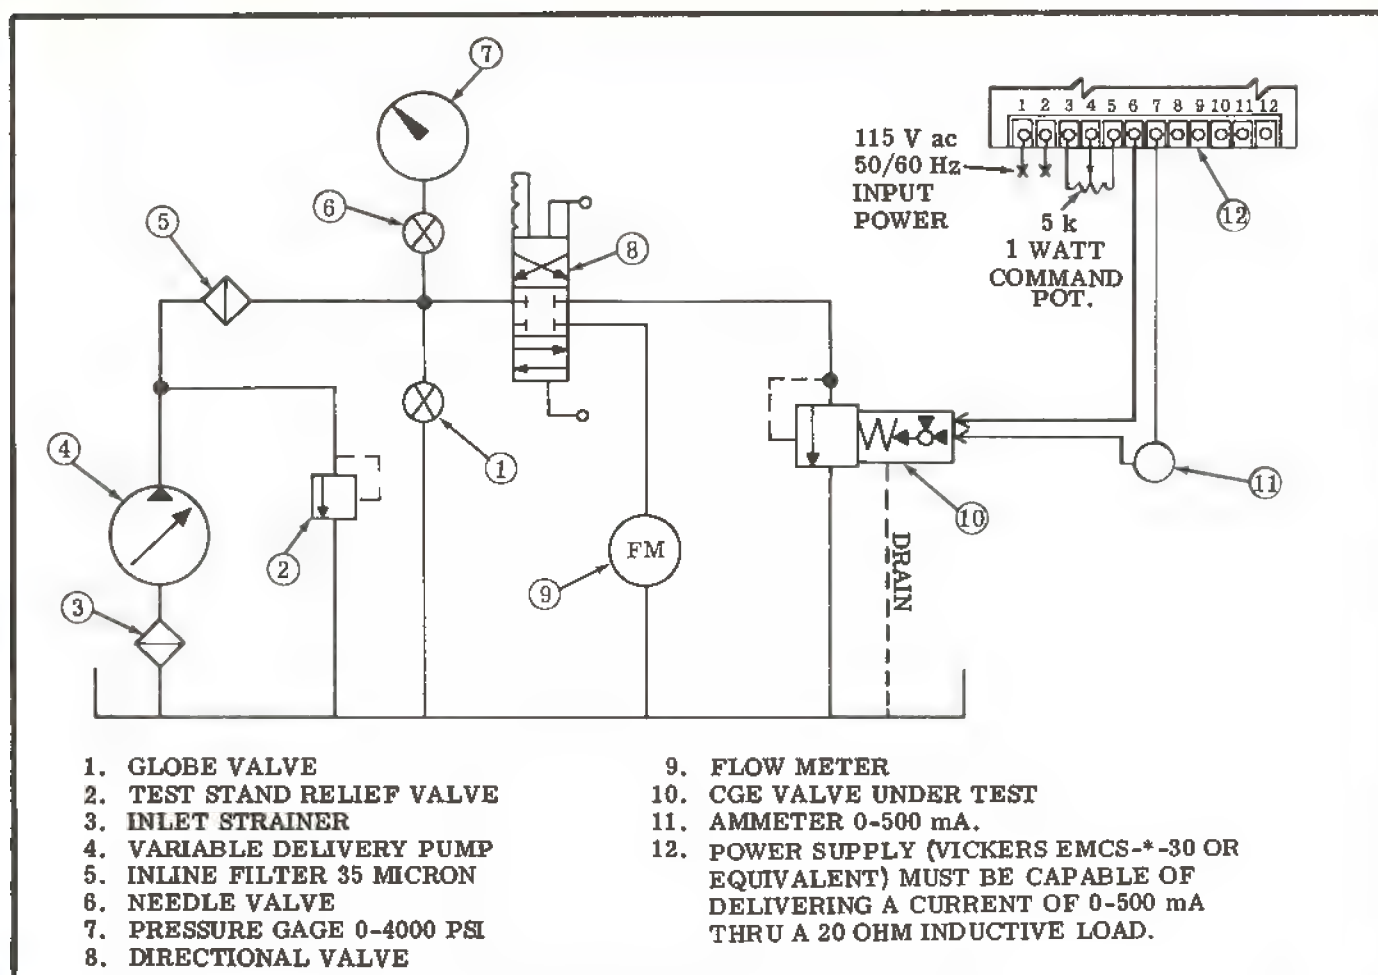

Figure 8. Hydraulic Test Circuit for CGE Valve.
A sample hydraulic and electrical circuit is shown in figure 8. Modify an existing test stand or obtain necessary components to assemble the test circuit.
2. Connect valve to the test circuit and attach power supply (12, figure 8). The connections can be made without regard to polarity.
4. Turn power supply current control knob to zero (0).
In the following step, if milliammeter (11, figure 8) reads in reverse, reverse the meter connecting wires.
6. Switch directional valve (8, figure 8) to allow flow through flow meter and adjust flow rate for valve under test. (Flow rates tabulated in paragraph VII.A. Test Conditions).
7. Adjust relief valve (2, figure 8) to minimum pressure and open globe valve (1).
8. Switch directional valve to center blocked condition. Gradually close globe valve (1, figure 8) and adjust relief valve (2) until pressure reading on gage (7) is 3750 PSI. Globe valve must be completely closed at completion of this step.
Needle valve (6, figure 8) is used as a snubber for gage (7).
1. Switch directional valve to divert flow through the valve under test (10, figure 8). Turn relief valve adjustment screw (41, figure 3) all the way in. Pressure should be within range "A", perform the following adjustment procedure.
To prevent personal injury, remove all power from the hydraulic system or divert all system flow to the reservoir through flow meter (9, figure 8) when work is performed to the valve under test.
Add or remove shims to bring pressure shown on gage (7, figure 8) within range "A" of table 4. Use the 0.025 inch thick shim, (44, figure 3), for a 100 PSI change.
Add or remove shims to bring pressure shown on gage (7, figure 8) within range "A" of table 4. Use the 0.025 inch thick shim, (44, figure 3), for a 230 PSI change and the 0.250 thick shim for a 700 PSI change.
3. Turn relief valve adjustment screw to pressure "B" shown in table 4. Check for porosity and external leaks. Drop pressure to value "C" with globe valve 1, (figure 8), and check the leakage from discharge port, not to exceed "D".
5. Switch directional valve (8, figure 8) to divert flow through flow meter.
1. Switch directional valve (8, figure 8) to divert flow to the valve under test (10, figure 8).
2. Make sure dither is off (dither control fully counterclockwise). Increase current to the valve under test until rated pressure is obtained. The current at this time should be 475 to 500 millamperes for the 3000 PSI models and between 465 and 500 for the 1000 PSI models. If the current is not within this range, remove current, shift directional valve (8, figure 8) to direct oil to the flow meter and remove pilot valve cover (4, figure 3). If the current reading is low, add shims (11, figure 3) as required. If current reading is high, remove shims as needed. Each shim will change the pressure setting approximately 25 PSI on 1000 PSI models and 150 PSI on 3000 PSI models.